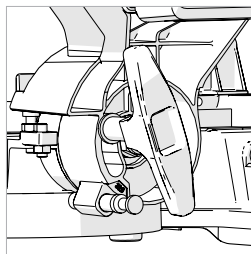

Fig. 46
- Loosen the bevel lock handle. (**Fig. 46**)